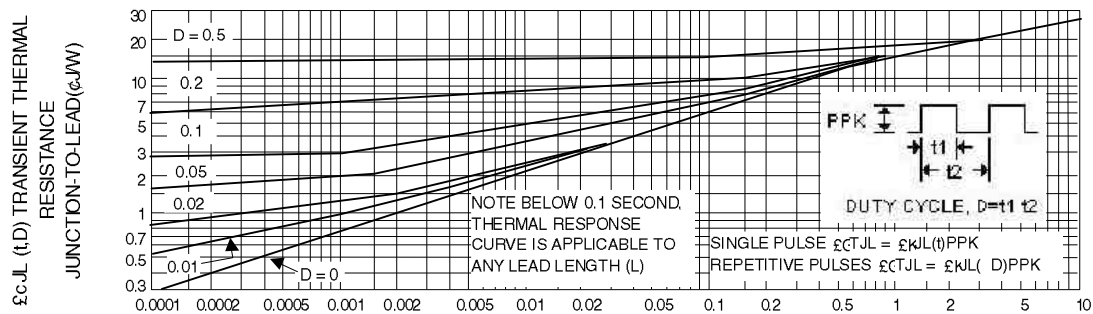
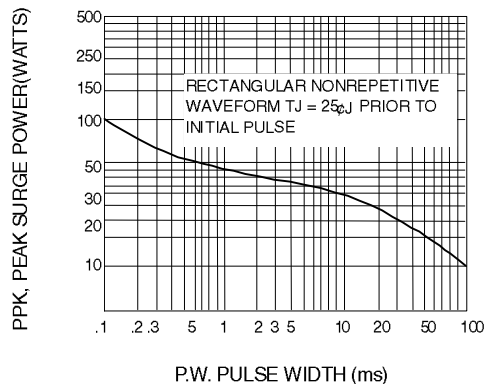
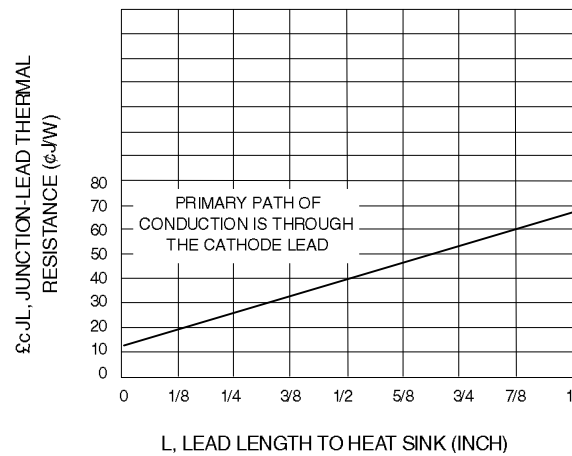

Fig. 2-TYPICAL THERMAL RESPONSE L,
Fig. 3-MAXIMUM SURGE POWER
Fig. 10-TYPICAL THERMAL RESISTANCE
4. SURGE CURRENT (I_R) NON-REPETITIVE - The rating listed in the electrical characteristics table is maximum peak, non-repetitive, reverse surge current of 1/2 square wave or equivalent sine wave pulse of 1/120 second duration superimposed on the test current, I_{ZT} , per JEDEC standards, however, actual device capability is as described in Figure 3.
ΔT_{JL} is the increase in junction temperature above the lead temperature and may be found from Figure 2 for a train of power pulses or from Figure 10 for dc power.
Data of Figure 2 should not be used to compute surge capability. Surge limitations are given in Figure 3. They are lower than would be expected by considering only junction temperature, as current crowding effects cause temperatures to be extremely high in small spots resulting in device degradation should the limits of Figure 3 be exceeded.